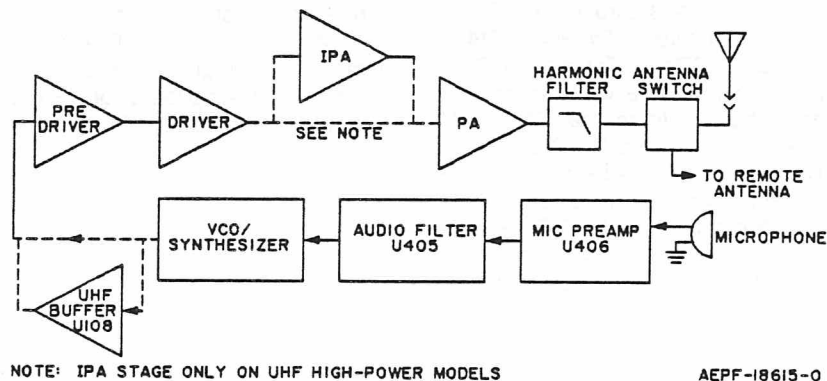

Figure 4. Transmitter Block Diagram
Operating power for the radio is derived from a 10-volt battery. This 10 volts (BATT B+), via the PTT/B+Flex, the Frequency Switch Flex, and the Volume Pot Flex, is applied to the ON/OFF switch. When the radio is turned on, the voltage sources required to operate the various stages of the radio are distributed as shown in Figure 4. In the transmit mode (PTT actuated) a logic low on the R/T line enables the DC switch to provide the required 5 Vdc and 10 Vdc to the transmitter circuits.
f. Basic Transmitter Operation (See Figure 4)